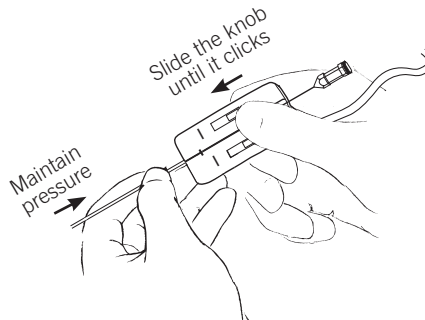

FIGURE 6
2. While maintaining forward pressure on the lead, push the sliding knob on top of the connector assembly toward the “I” until it clicks and locks the lead in place (see Figure 6).